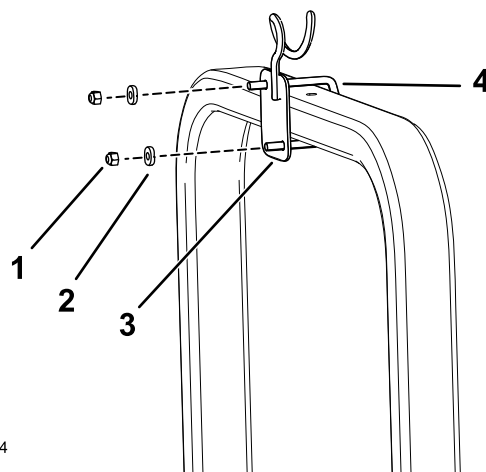

Figure 6
3. Secure the ROPS-cable-guide bracket using 1 U-bolt (4 inches), 4 spacers, and 2 locknuts (3/8 inch) as shown in Figure 6.
4. Secure the ROPS-cable-guide bracket using 1 U-bolt (4 inches), 2 spacers, and 2 locknuts (3/8 inch) as shown in Figure 6.